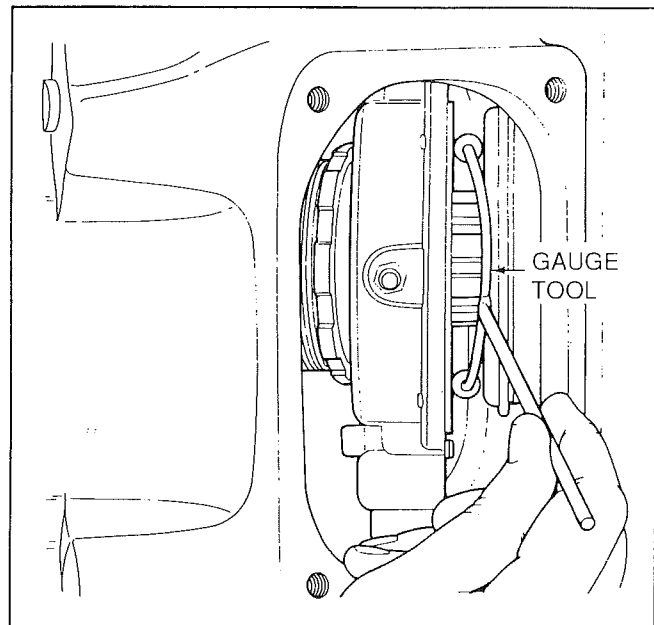
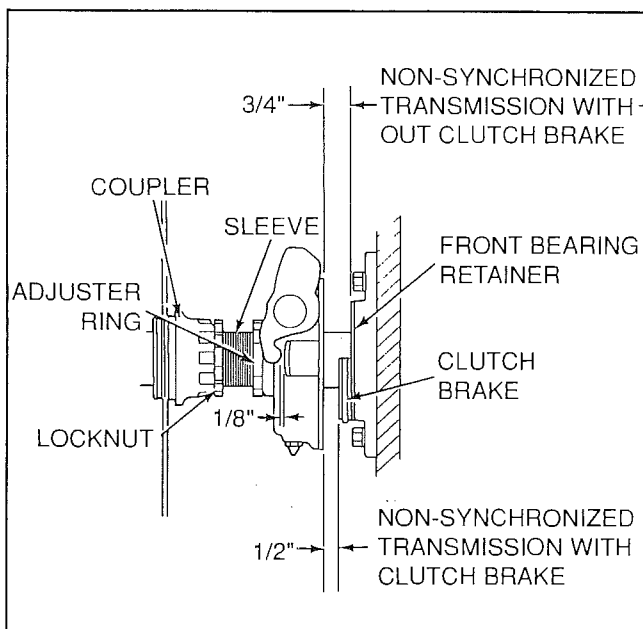

Figure 11-2. Checking Clutch Release Bearing Travel Gap
Figure 11-1. Release Bearing Travel Gap on Non-Synchronized Transmissions
4. Using the adjuster ring, rotate the release bearing threaded sleeve into or out of the release bearing coupler to obtain the specified gap at the rear of the release bearing (Fig. 11-1 and Table 11-1 for specified gap). Measure this gap with an appropriate tool (Fig. 11-2).